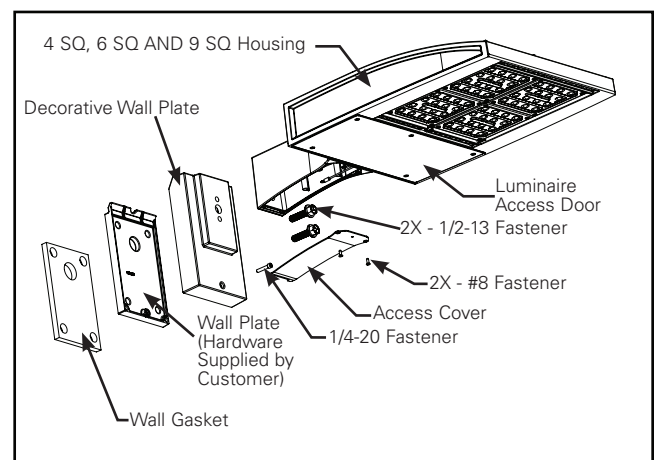

Figure 4.
Wall Mount, Fixed (WM) (Fig. 4)